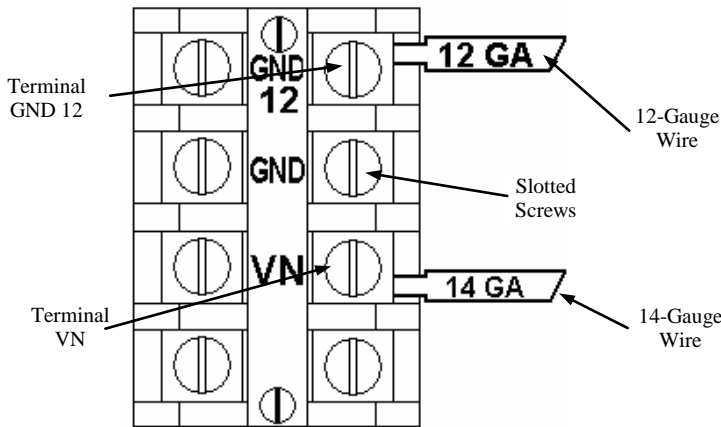
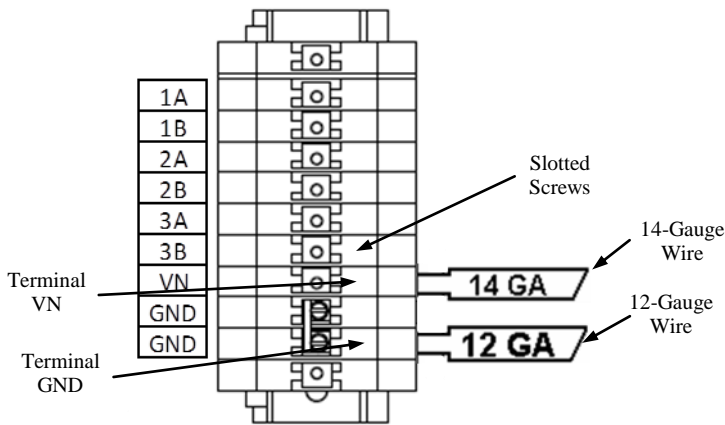

Figure 3. Terminal board in the meter module.
Figure 3A. Terminal board in the APM***E50** meter module.
- 3. Installing the ground and neutral wire.** Locate the terminals marked GND 12 (GND for APM***E50**) and VN (if required), as shown in Figure 3 and Figure 3A. Loosen the slotted screws on the right side of the terminal board. Insert one end of the 12-gauge wire [1] into the GND 12 (GND for APM***E50**) slot. Insert one end of the 14-gauge wire [2] into the VN slot. Tighten the screws to 12 in-lb (1.2 Nm for APM***E50**).